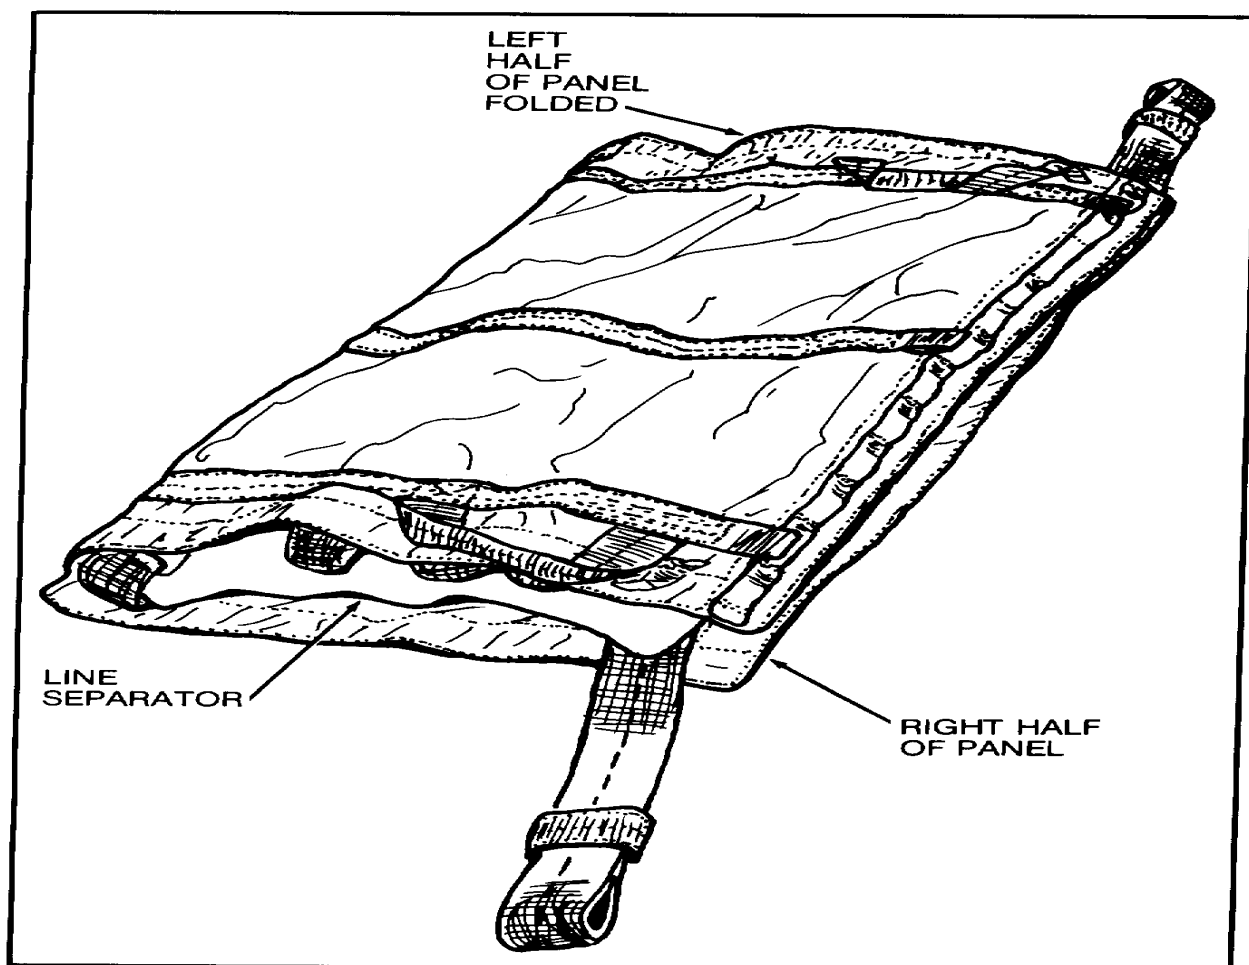

Figure 5. Left Half of Panel Folded Over Right Half.
- b. Fold left of panel over line separator forming half bag (figure 5).